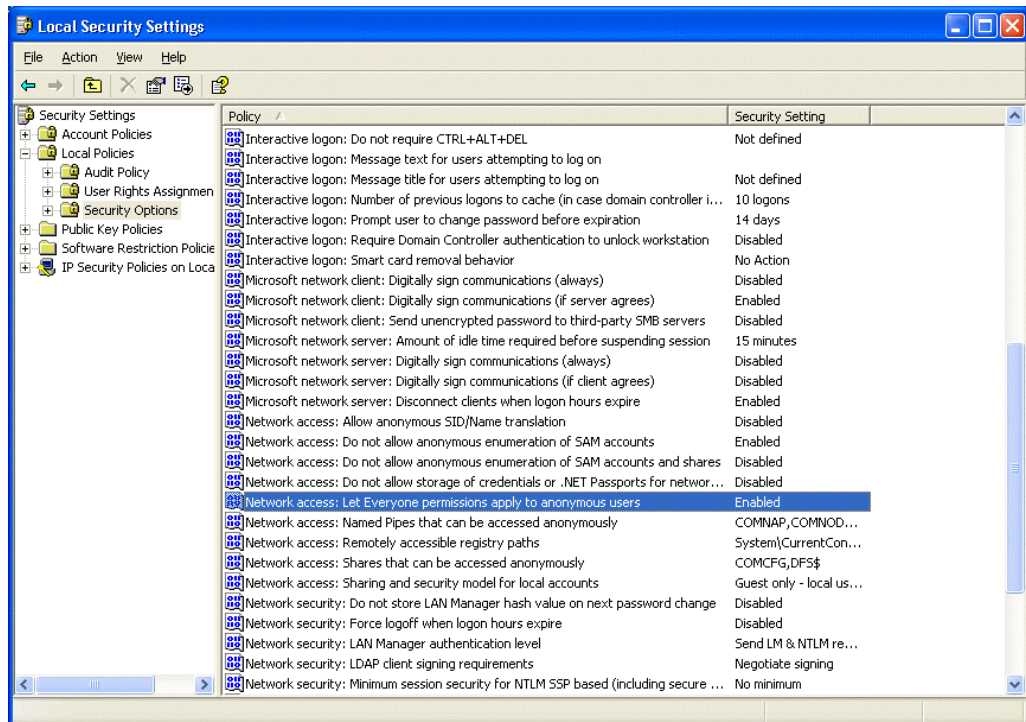

Fig. 6.3-16 Local Security Settings Window
8. Confirm that Security Setting is **Enabled** for **Network access:Let Everyone Permissions Apply to anonymous users** as shown in Fig. 6.3-16, and then close the Local Security Settings window.